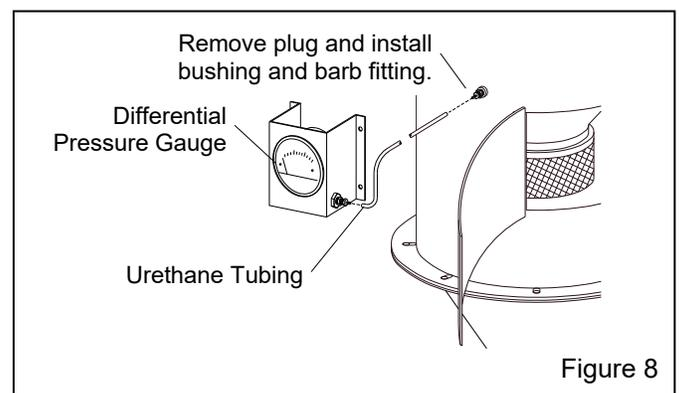

Figure 8
### 3.4 Reclaimer Differential-Pressure Gauge Monitors reclaimer static pressure – Figure 8
**3.4.4** Remove the 1/4" pipe plug from the reclaimer body and install 1/4" x 1/8" bushing and barb fitting, as shown in Figure 8.